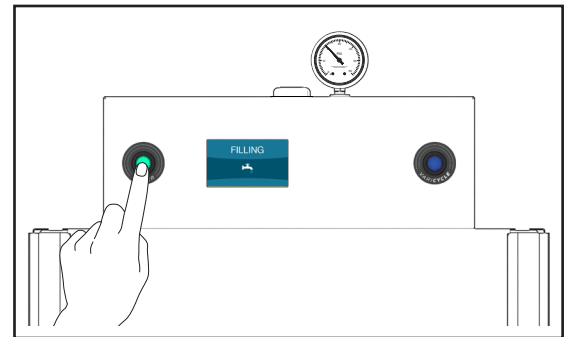

Fig. 46 - Power button on starts machine filling
6. Push the green power button on. The power button will illuminate and the machine will fill with water (see Fig. 46).